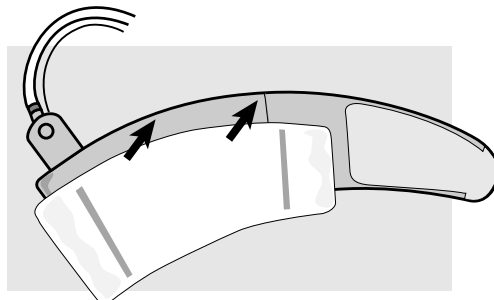

Fig 2
- apply the adhesive strips on the inside of the cuff, lining the cuff connector up to the edge of the pouch (Fig 2).